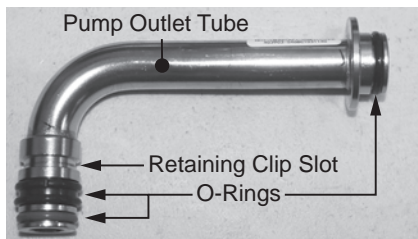

Figure 181 - Pump outlet tube O-rings
- Locate new pump outlet tube and three (3) O-rings provided in the kit. The pump outlet tube uses one (1) 14 x 2.5 O-ring on the inlet side, one (1) 14 x 7 double seal O-ring on the inlet side, and one (1) 15 x 2.5 O-ring on the outlet side. Install O-rings to tube. Install tube to water pump and secure with retaining clip. Install tube to water connection and secure with spring clip (size 25). Proceed to **Step 33** if not replacing water pump. See Figure 181.
The pump outlet tube uses one (1) 14 x 2.5 O-ring on the inlet side, one (1) 14 x 7 double seal O-ring on the inlet side, and one (1) 15 x 2.5 O-ring on the outlet side. See Figure 181.